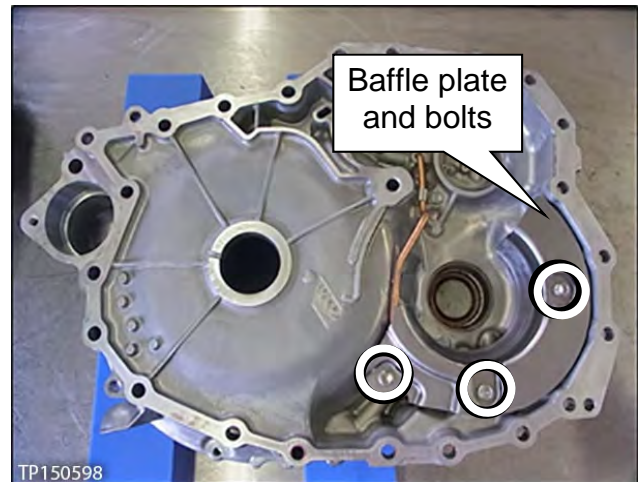

Figure 154
- a. Remove the three bolts, and then remove the baffle plate from the converter housing (Figure 154).